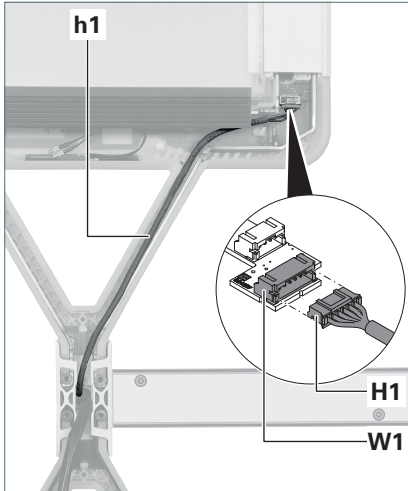

Fig. 16: Connecting the control cable.
2. Lay the control cable **h1** from the cross-bar into the supporting arm of the luminaire head 1, see Fig. 16.